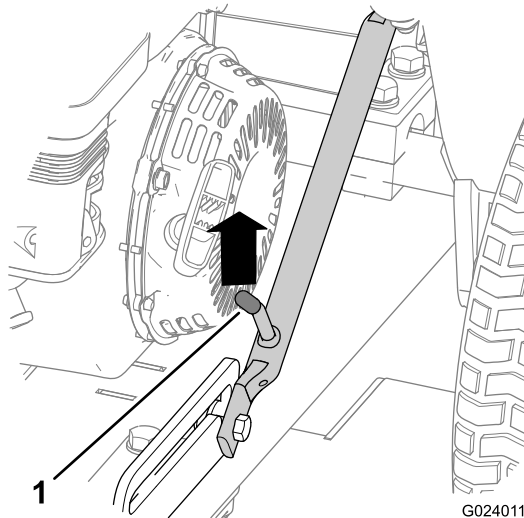

Figure 18
1. Push up on the hitch assembly until the latch lever is unlocked from the slide detent (Figure 18).
5. Raise the hitch (Figure 23) until the latch lever locks in the slide detent (Figure 18).